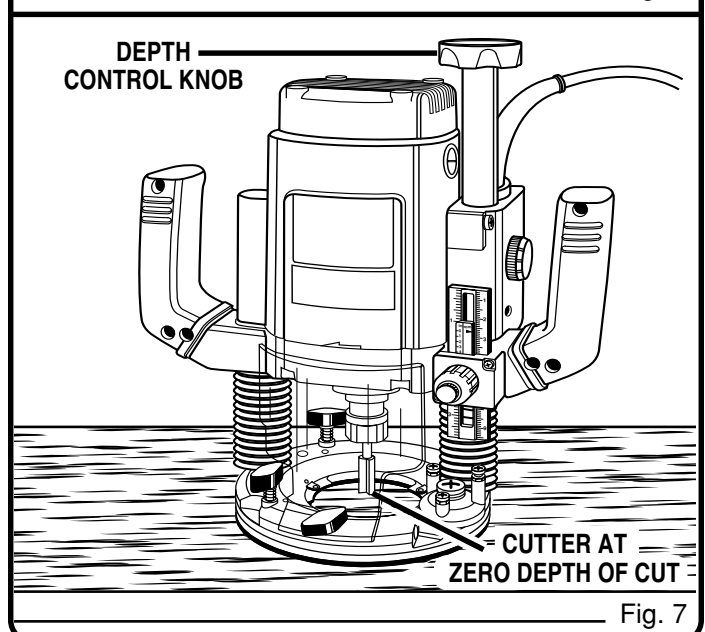

Fig. 7
- Lower router until tip of cutter barely touches the workpiece. See Figure 7.